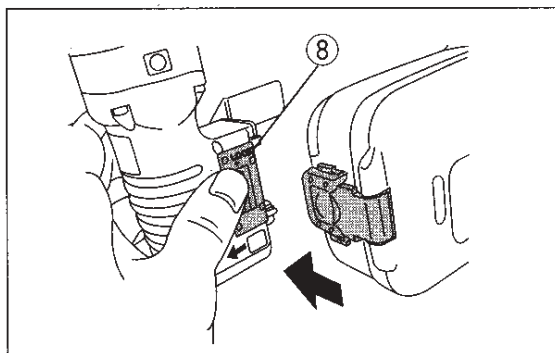

Figure 3
1. Pull the lock release lever in the direction shown by the arrow in Figure 3.